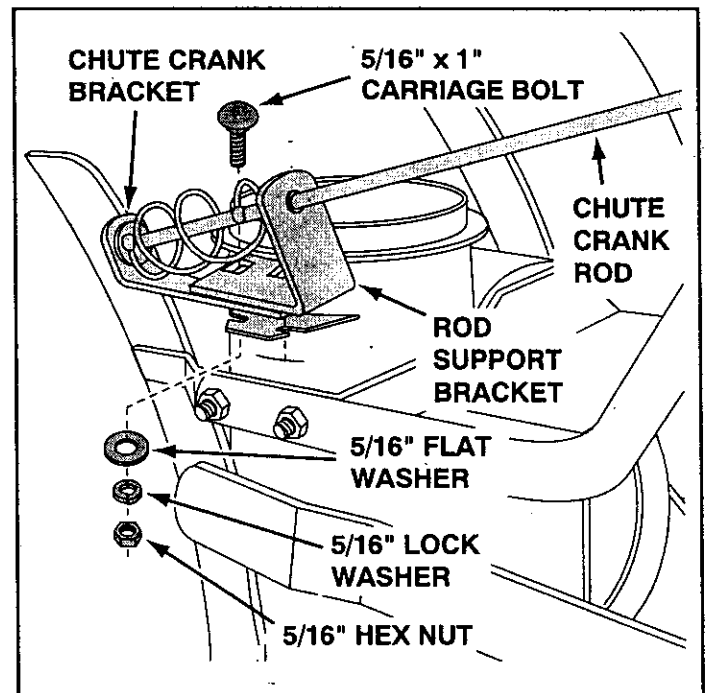

FIGURE 20 LEFT SIDE VIEW
- Attach the chute crank rod assembly brackets to the plastic bracket on the left side of the thrower housing. Align the chute crank bracket beneath the rod support bracket and assemble both to the plastic bracket using two 5/16" x 1" carriage bolts, 5/16" flat washers, 5/16" lock washers and 5/16" hex nuts. **Do not tighten yet.** See figure 20.
- Pull the crank rod spiral out away from the discharge chute to prevent tightness between the spiral and the notches in the chute flange. **Tighten** the nuts assembled in figure 20